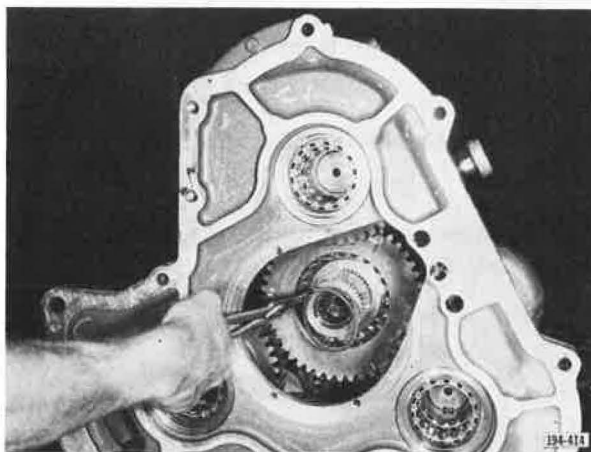

Figure 5-276. Removing Snap Ring
7. Remove Lo-range (or Lo-Lo-range) gear snap ring through the rear case front opening using snap ring pliers J-6435 or equivalent. See Figure 5-276.